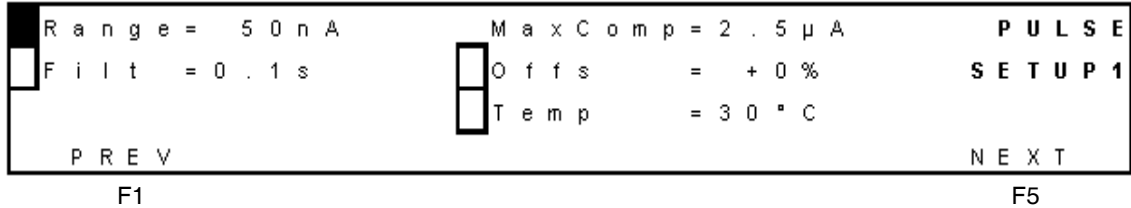

Figure 3-46 Pulse Setup1 Screen
1. From the Main screen, select **F3 PULSE**. The Pulse Setup1 Screen appears (Figure 3-46).